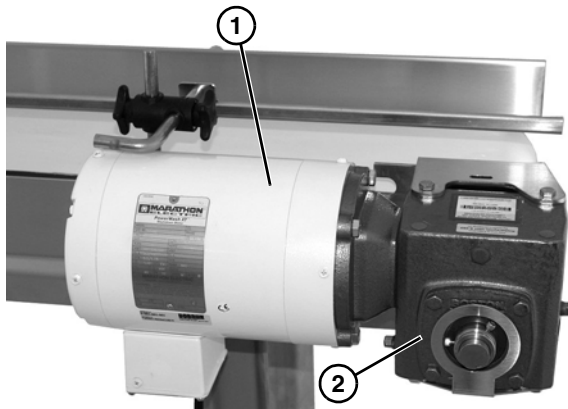

Figure 29
- Attach the motor (Figure 29, item 1) to the gear reducer (Figure 29, item 2).